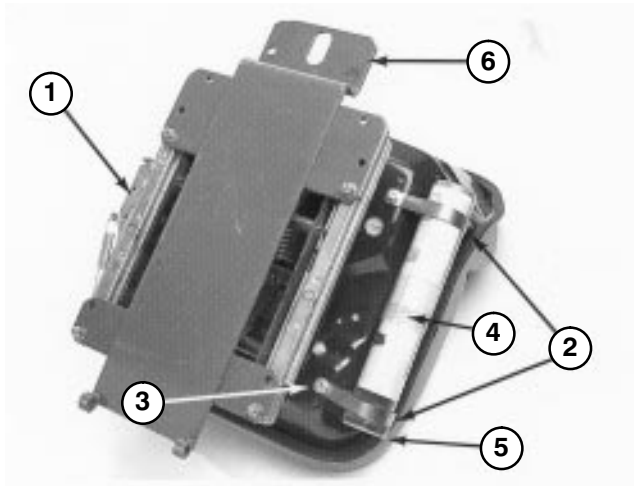

Figure 9
7. Mount seat suspension assembly to (4) capscrews on seat bottom and secure with (4) lockwashers, flatwashers and nuts (Fig. 9).
8. Loosely secure (2) R-clamps to right side of seat bottom with (2) capscrews and flatwashers supplied in kit (Fig. 9). Install manual tube into R-clamps and tighten capscrews (Fig. 9).
9. Mount seat support over four threaded studs at the bottom of seat suspension assembly and secure in place with flangenuts (Fig. 9).